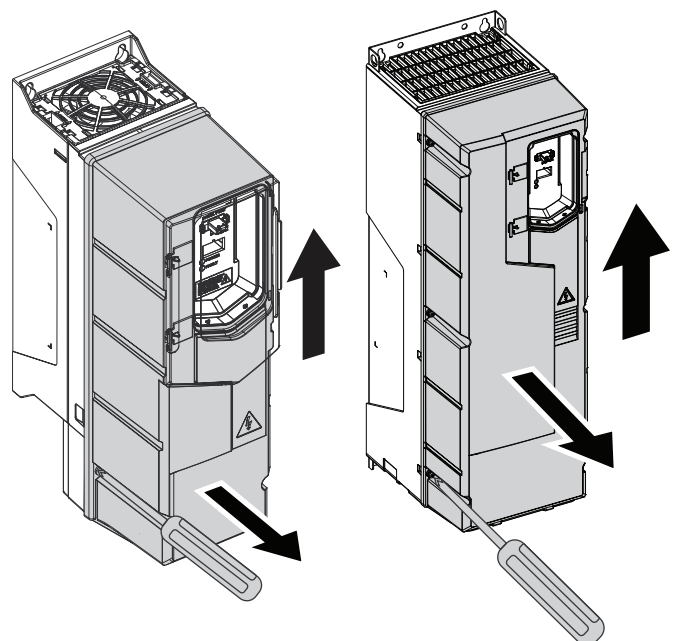

Fig. 66 — Remove Drive Cover (R1 and R2 Frame Sizes)
3. Remove the front cover by loosening the retaining screw. See Fig. 66.